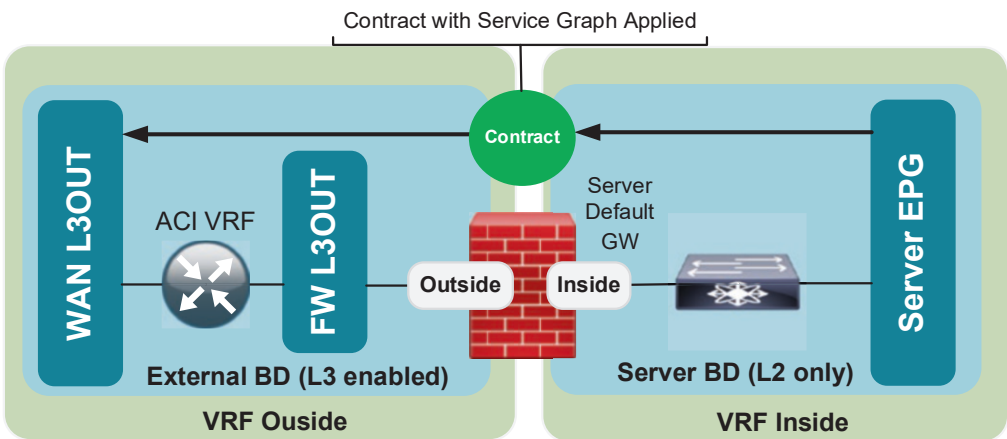

Figure 8-6. Routed L4-L7 node connected directly to L3OUT
- c. **Routed Mode with L3OUT to L4-L7 device:** This is a variation of the previous design, where the outside L4-L7 interface is connected via L3OUT to ACI. We need separate VRFs for internal (even though not used) and external forwarding together with two L3OUTs (see Figure 8-6). One connects ACI to the external WAN network, the other the outside interface of FW or LB. Mutual external routing from/to such an architecture can be implemented statically, using a dynamic protocol, or by a combination of both. A contract with a service graph is applied between the server EPG and the WAN L3OUT L3OUT ExtEPG.